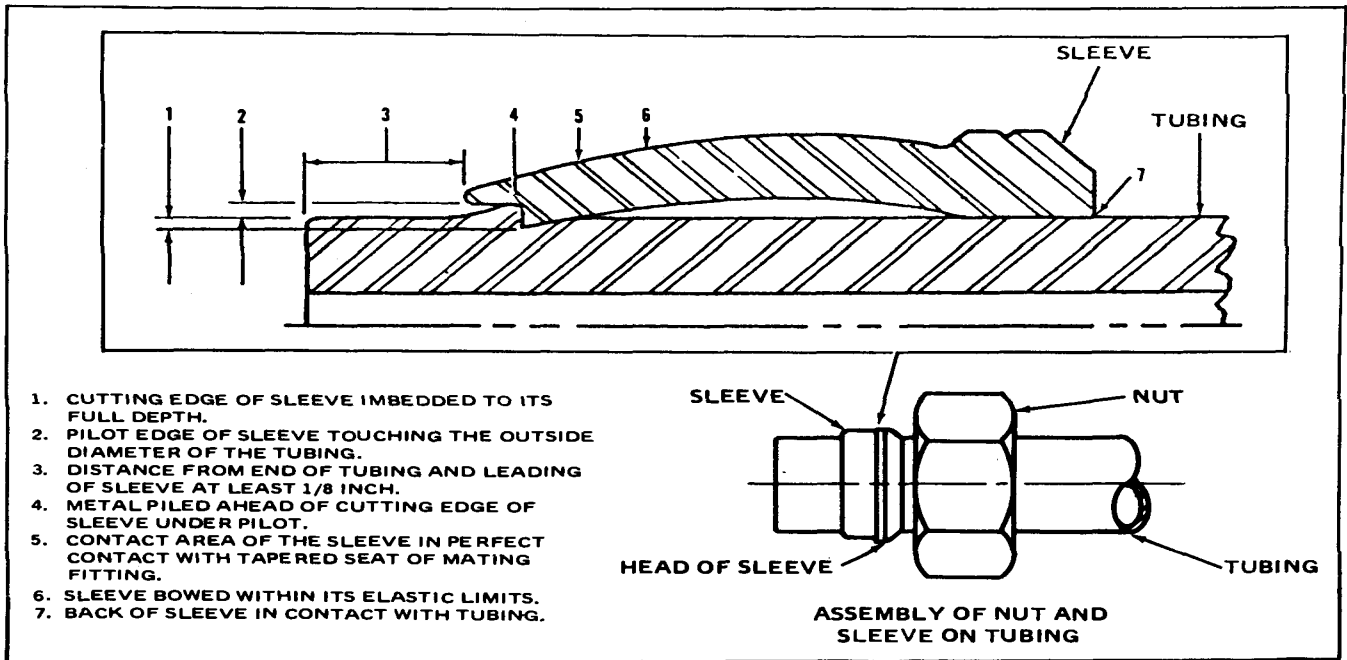

Figure 6-1. Steel Tubing and Fitting Assembly
- (b) Slide tubing nut and then the sleeve onto the tubing, refer to Figure 6-1. Make certain end of tubing is free of any burrs and is reasonably square.
- (f) Unscrew nut and remove the tubing from the mating fitting, or presetting tool. Inspect the preset as described in Figure 6-1.
Remove tubing and hose assembly as needed (see Figure 6-1) in the disassembly process. Tag tube and hose assembly for reassembly purposes.